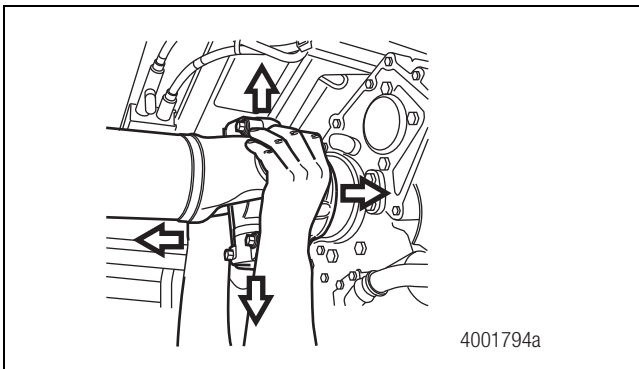

Figure 4.8
- B. Try to move the yoke UP-AND-DOWN and SIDE-TO-SIDE by applying at least 50 lb-ft (222.5 N•m) of force to the driveline near the universal joints. Figure 4.8.